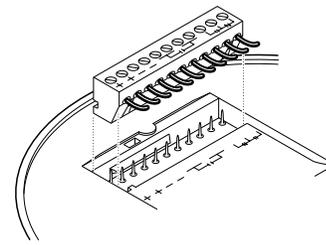

Figure 3. Plug-in Terminal Block
1. Pull wire through the electrical box and connect to the plug-in terminal block supplied, one wire per terminal. See Figures 3 and 5.